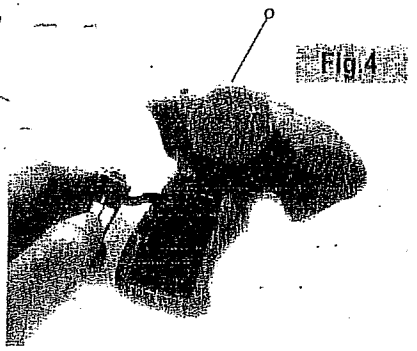

Fig. 4
2. Insert new "9V" batteries with "+" & "-" signs as shown inside the battery compartment. (Fig. 4)